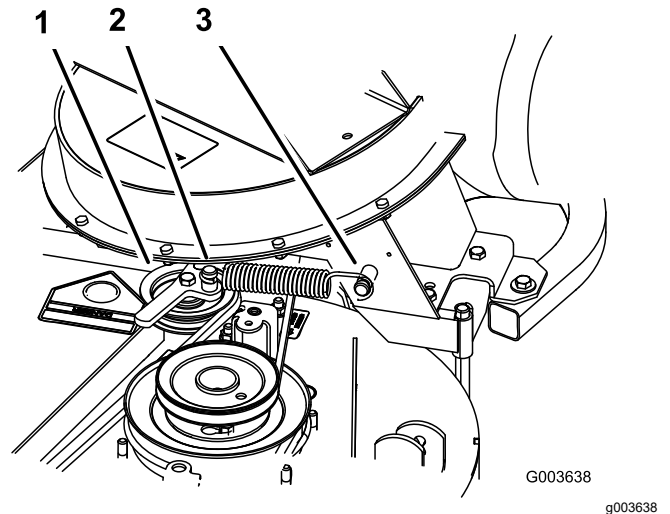

Figure 18
- Install the spring as shown in Figure 18.